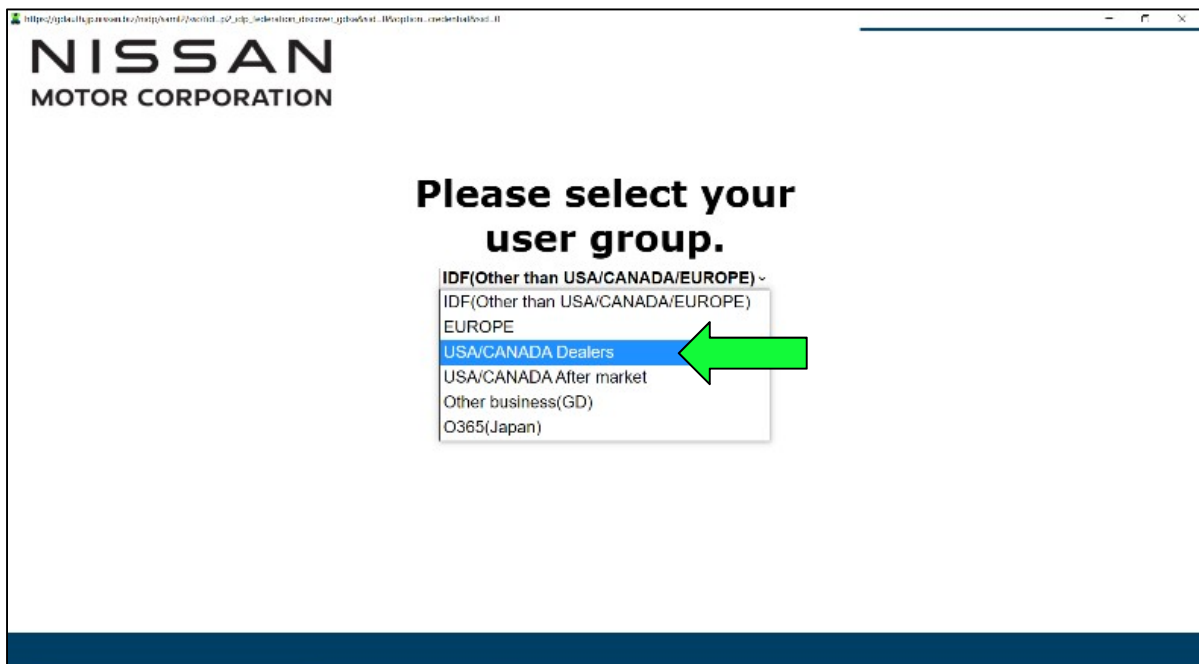

Figure 4
6. If prompted, select **USA/CANADA Dealers** from the drop-down menu (Figure 4), and then select **OK** (not shown).